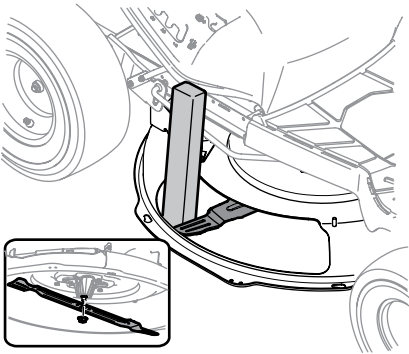

Figure 4-17
2. Using a block of wood or 2 x 4, insert it into the deck opening and rotate the blade around until it wedges the wood between the deck opening and the cutting blade, as shown in Figure 4-17.
3. Remove the hex flange nut that secures the blade to the spindle assembly. See the Inset of Figure 4-17.